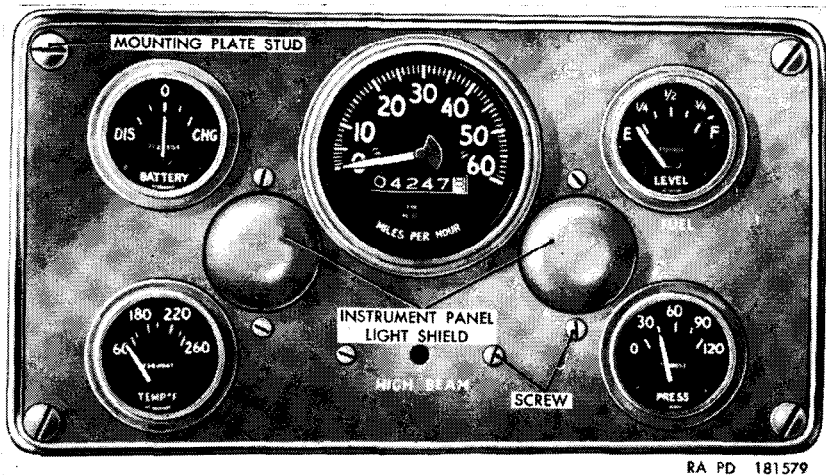

Figure 83. Instrument cluster—front view.
*a. Instrument Cluster* (fig. 83). The speedometer, ammeter, oil pressure gage, water temperature gage, fuel gage, two instrument panel lights, and headlight high beam indicator light are mounted in the instrument panel mounting plate located in the instrument panel. This assembly is referred to as the instrument cluster. The location and function of the various units in the instrument cluster are described in paragraphs 25, 26, 29, 30, 31, 39, and 40.
a. Removal. Disconnect the ground cable (par. 155c(2)). Turn each of the four instrument cluster mounting plate studs (fig. 83) one-half turn counterclockwise and pull instrument cluster free from instrument panel. Unscrew the nut securing the speedometer flexible shaft assembly to the speedometer and pull shaft free from speedometer. Disconnect cable No. 27, at connector (T), from the instrument cluster circuit breaker-to-gages wiring harness (AA). Disconnect cable No. 17 at connector (U). Disconnect cable No. 40 at double connector (R). Disconnect cable Nos. 8 and 9 from ammeter at terminals (H and L). Disconnect cable No. 33 from water temperature gage at terminal (M). Disconnect cable No. 36 from oil pressure gage at terminal (W). Disconnect
*b. Installation.* Position instrument cluster at instrument panel so that cables may be connected. Connect cable No. 36 to oil pressure gage at terminal (W), and cable No. 33 to water temperature gage at terminal (M). Connect cable No. 28 to fuel gage at terminal (A). Connect cable No. 8 to terminal (H) and cable No. 9 to terminal (L) of ammeter. Connect cable No. 40 to double connector (R). Connect cable No. 17 to connector (U). Connect cable No. 27 to connector (T). Position speedometer flexible shaft assembly in speedometer and tighten nut securing shaft to speedometer. Install instrument cluster in instrument panel and secure in position by turning the four instrument cluster mounting plate studs (fig. 83) one-half turn clockwise. Connect the ground cable (par. 155d(4)).
*a. Removal.* Disconnect ground cable (par. 155c(2)). Turn the four instrument cluster mounting plate studs (fig. 83) one-half turn counterclockwise and pull instrument cluster free from instrument panel. Disconnect cable Nos. 8 and 9 from terminals (H and L). Remove the two nuts and lockwashers (K) securing the ammeter and ammeter mounting bracket (J) to the instrument panel mounting plate (E) and remove ammeter and bracket.
*b. Installation.* Position ammeter on the instrument panel mounting plate (E) and rotate ammeter until it engages the locating slot in the plate. Position ammeter mounting bracket (J) over the ammeter and secure ammeter and bracket to plate with two No. 8 lockwashers and nuts (K). Connect cable No. 8 to terminal (H) and cable No. 9 to terminal (L). Position the instrument cluster on the instrument panel and turn the four instrument cluster mounting plate studs (fig. 83) one-half turn clockwise. Connect ground cable (par. 155d(4)).
*a. Removal.* Turn the four instrument cluster mounting plate studs (fig. 83) one-half turn counterclockwise and pull the instrument cluster free from instrument panel. Unscrew the nut securing the speedometer flexible shaft assembly to the speedometer and pull shaft free from speedometer. Remove the nut (CC), lockwasher, and plain washer securing the instrument cluster circuit breaker-to-gages wiring harness (AA) to the wiring harness mounting stud (BB) and detach harness from the stud. Remove the plain washer, stud, and lockwasher from the speedometer mounting stud. Remove the nut and lockwasher (G) from the remaining speedometer mounting stud and remove speedometer
*a. Removal.* Disconnect the ground cable (par. 155c(2) ). Turn the four instrument cluster mounting plate studs (fig. 83) one-half turn counterclockwise and pull instrument cluster free from instrument panel. Disconnect cable No. 17 at connector (U). Remove the two screws and lockwashers securing the headlight high beam indicator light and cover to the instrument panel mounting plate (E) and remove indicator light (S).
*c. Lamp Replacement.* Disconnect the ground cable (par. 155c(2) ). Turn the four instrument cluster mounting plate studs (fig. 83) one-half turn counterclockwise and pull instrument cluster free from instrument panel. Turn the cover of the headlight high beam indicator light (S) counterclockwise and pull cover out of light body. Press in and turn lamp counterclockwise to disengage it from lamp socket. Install new lamp by pressing it into lamp socket and rotating clockwise. Position indicator
light cover on light body, press in and turn cover clockwise to engage with light body. Position instrument cluster on instrument panel and turn the four instrument cluster mounting plate studs (fig. 83) one-half turn clockwise. Connect the ground cable (par. 155d(4) ).
*a. Removal.* Disconnect the ground cable (par. 155c(2) ). Turn the four instrument cluster mounting plate studs (fig. 83) one-half turn counterclockwise, and pull instrument cluster free from instrument panel. The two instrument panel lights with cables are permanently connected together in connector (R) and must be replaced as one unit. Disconnect cable No. 40 at connector (R). Remove the four screws and lockwashers securing the instrument panel lights to the instrument panel mounting plate (E) and remove lights (Z) and light shields (fig. 83).
*b. Installation.* Position the light shields in the instrument panel mounting plate (E). Position the two instrument panel lights on the plate and secure each with two No. 8 x  $\frac{5}{16}$  screws and lockwashers. Connect cable No. 40 to connector (R). Position instrument cluster on instrument panel and turn the four instrument cluster mounting plate studs (fig. 83) one-half turn clockwise. Connect the ground cable (par. 155d(4) ).
*c. Lamp Replacement.* Disconnect the ground cable (par. 155c(2) ). Turn the four instrument cluster mounting plate studs (fig. 83) one-half turn counterclockwise and pull instrument cluster free from instrument panel. Press in on the cover of the instrument panel light (Z), turn counterclockwise and pull cover out of light body. Press in and turn lamp counterclockwise to disengage it from lamp socket and remove lamp. Install new lamp by pressing lamp into socket and turning clockwise. Install instrument panel light cover by pressing in and turning clockwise in lamp body. Position instrument cluster on instrument panel and turn the four instrument cluster mounting plate studs (fig. 83) one-half turn clockwise. Connect the ground cable (par. 155d(4) ).